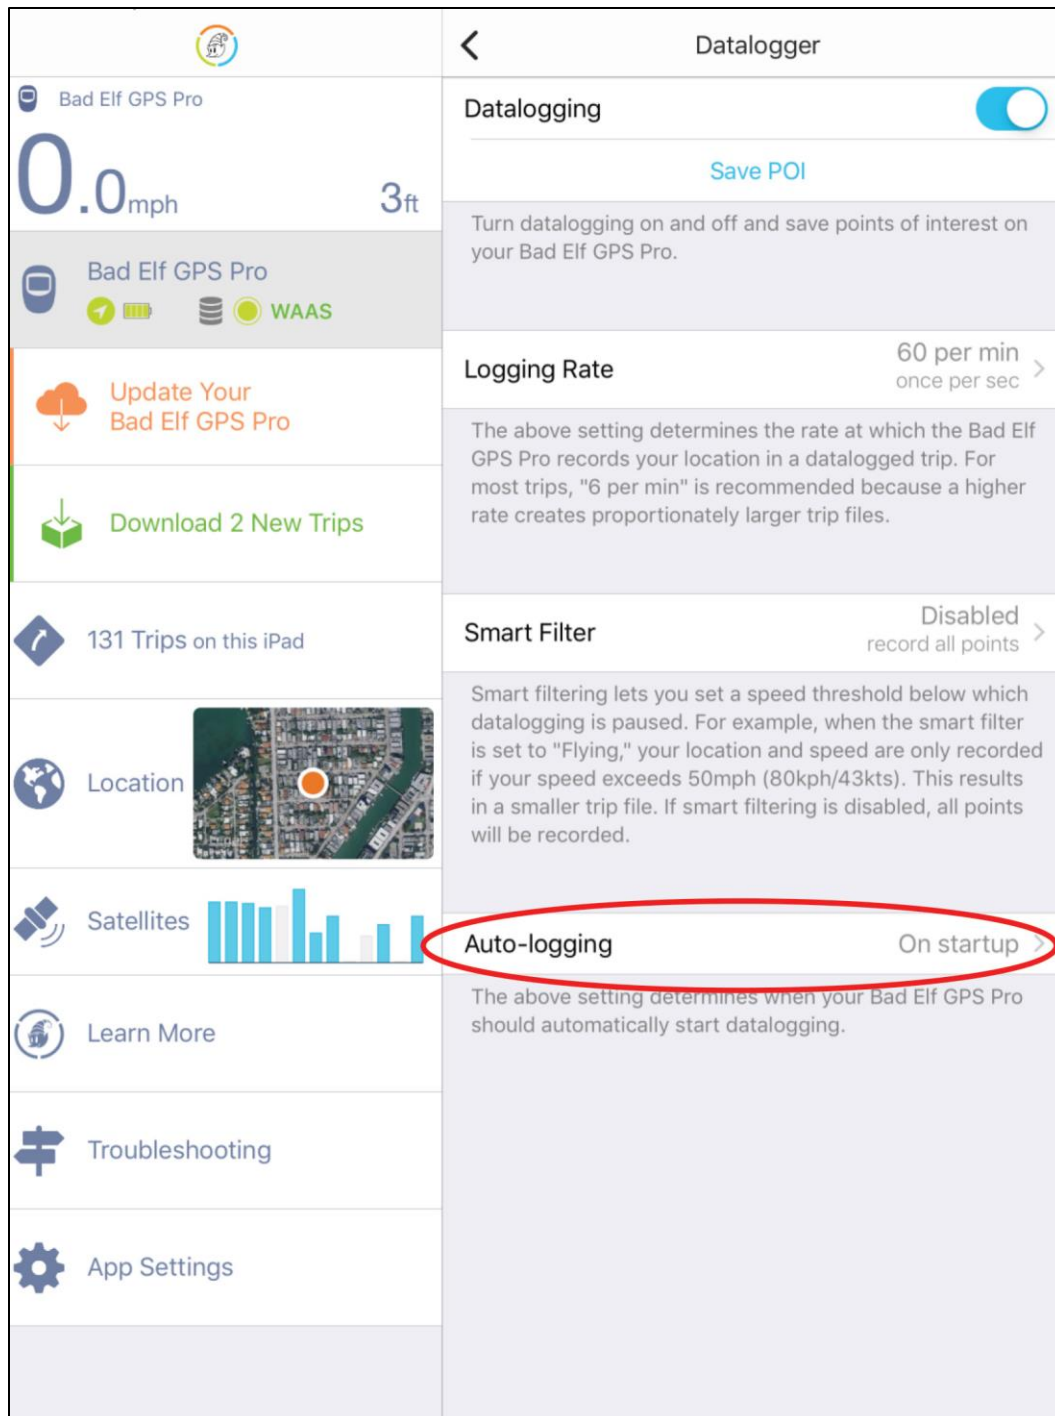

Figure 14. A screenshot of the Bad Elf GPS app, with the Auto-logging option set to 'On startup.'
11. In the Datalogger pane that appears on the right side of the screen, ensure that Auto-logging is set to 'On startup' (see Figure 14 below). If not, change the setting.